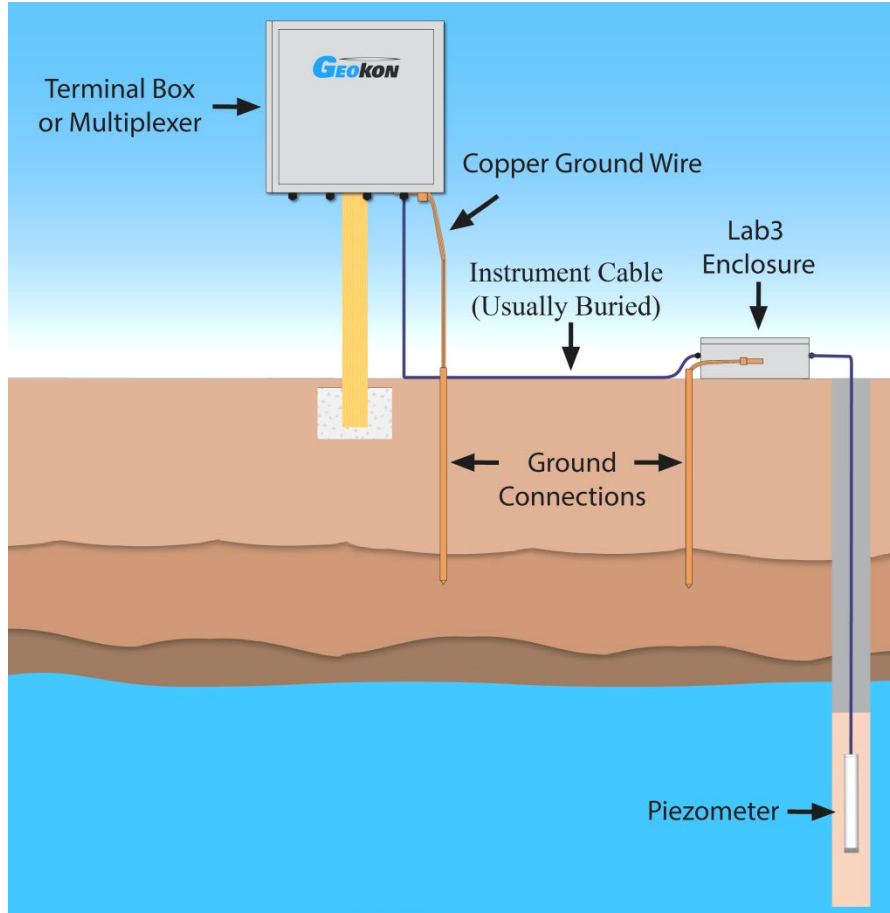

Figure 15 - Recommended Lab-3 Lightning Protection Scheme
In exposed locations, it is vital that the piezometer be protected against lightning strikes. A tripolar plasma surge arrester, which protects against voltage spikes across the input leads, is built into the body of the piezometer. (See Figure 15.)
- Placing a Lightning Arrestor Board (LAB-3) in line with the cable, as close as possible to the installed piezometer. (See Figure 15.) These units utilize surge arrestors and transzorbis to further protect the piezometer. This is the recommended method of lightning protection.